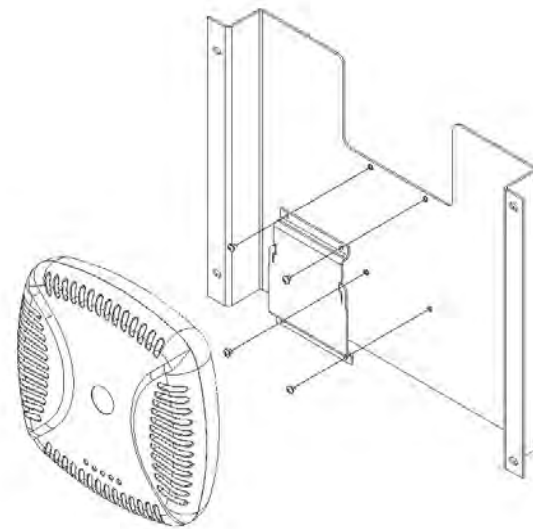

Figure 1
Step 1 – Install the mounting plate onto the mounting bracket using the (4) # 4-40 screws. The tabs of the mounting plate should be facing up toward the cutout on the bracket. Slide the access point onto the mounting plate, locking the tabs to the underside of the access point (Figure 1).